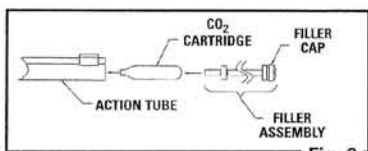

Fig. 3
- Insert a new CO₂ cartridge into the air rifle with the small neck of the cartridge inserted into the action tube first (Fig. 3).